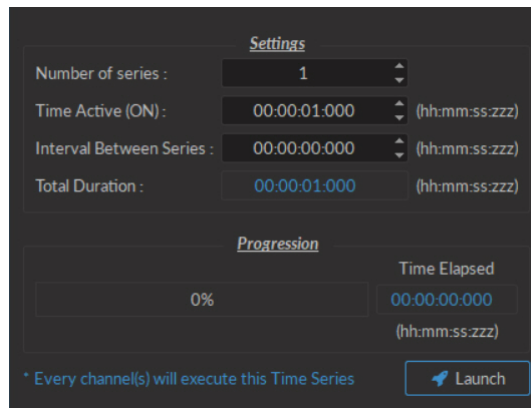

Figure 4.13: Control & Settings, Time Series Window
- The **Number of series** (Fig 4.13) sets the number of times that the sequence will be repeated, with a minimum of 1.